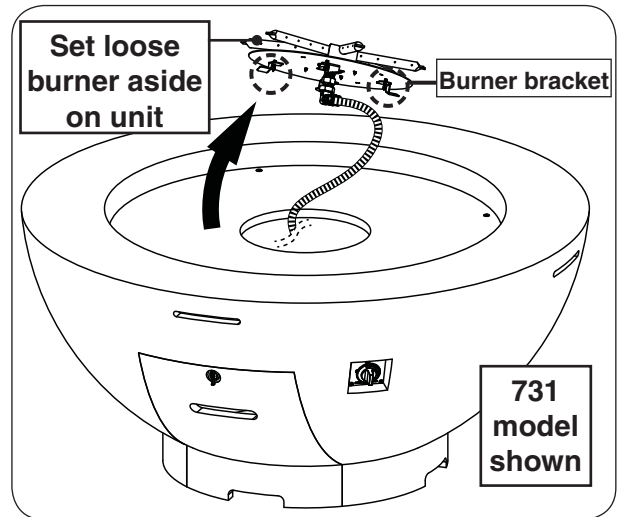

Fig. 22-1 Place unit and remove burner assembly
1. **CAREFULLY** place the base in an appropriate location (see Fig. 22-1, and refer back to the LOCATION section if needed).
2. Use a $\frac{5}{16}$ " nut driver to partially unfasten the four screws found on the burner assembly. Then carefully remove the burner and set it off to the side. See Fig. 22-1.